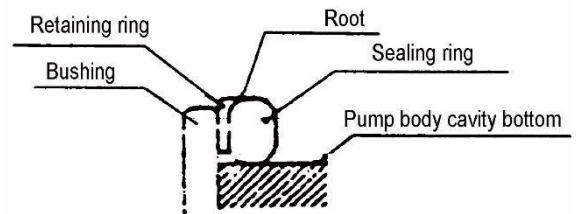

Fig. 7-15 Bushing Seal
- (e) Install a new sealing ring and a new retaining ring on the groove of the rear cover. (Fig. 7-15)